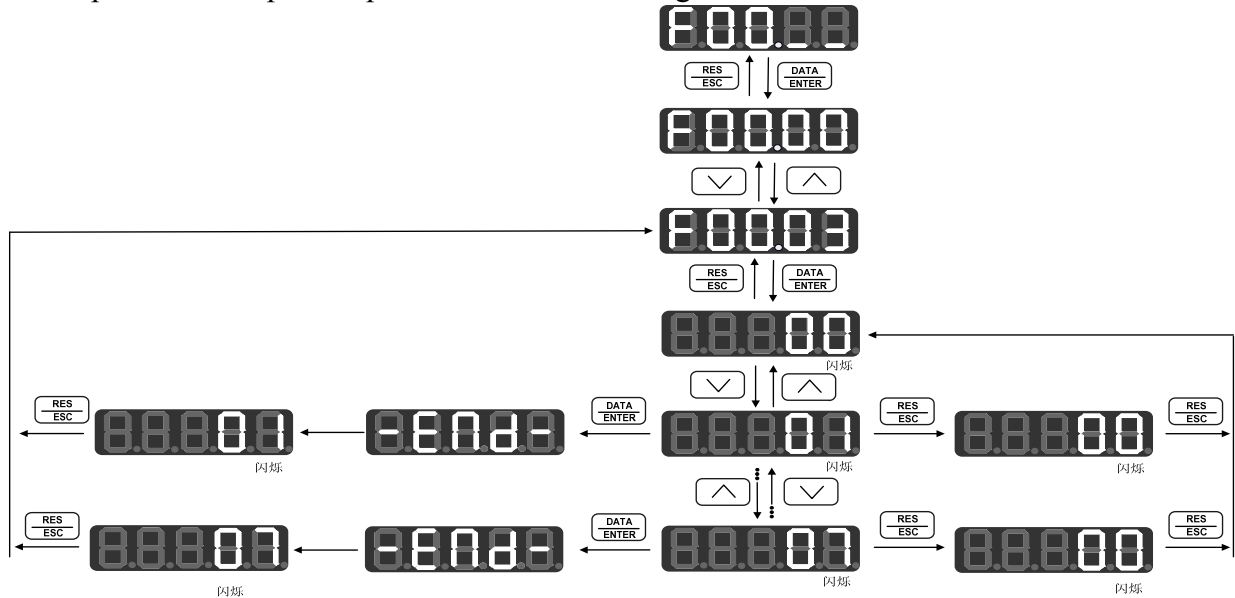

Figure 4-5 Parameter Saving and Resetting Procedures
- Follow the viewing procedure to enter the function code, and then editing the parameter refers to the procedure shown in Figure 4-5.
- Take F00.03 for instance, its original parameter value is 0, save or reset the parameter as per the procedures shown in Figure 4-5.